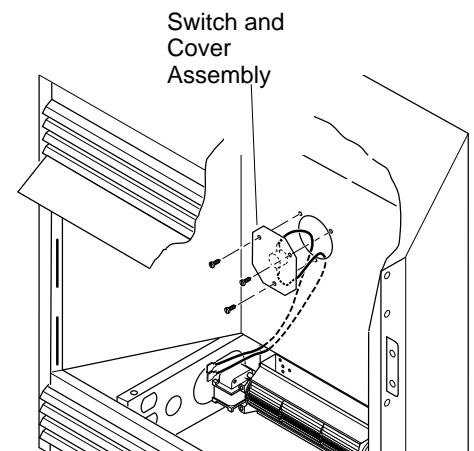

Figure 16 - Installing Switch and Cover Assembly
6. Mount the supplied thermostatic switch and cover assembly into firebox wrapper wall. Do this by feeding terminal ends of wire harness into the hole. Allow wires to fall to bottom of firebox cavity (see Figure 16).
7. Using three screws from step 5, attach switch and cover assembly to firebox wrapper rear wall. Tighten screws firmly (see Figure 16).